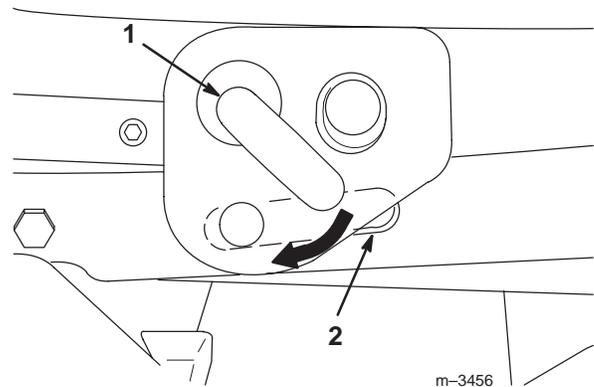

Figure 6
- Lower the attachment lift arm fully and adjust the deck's position until you can pull out on the J-pin of the lift arm and slide it into the slot in the mounting bracket of the mower (Fig. 6).